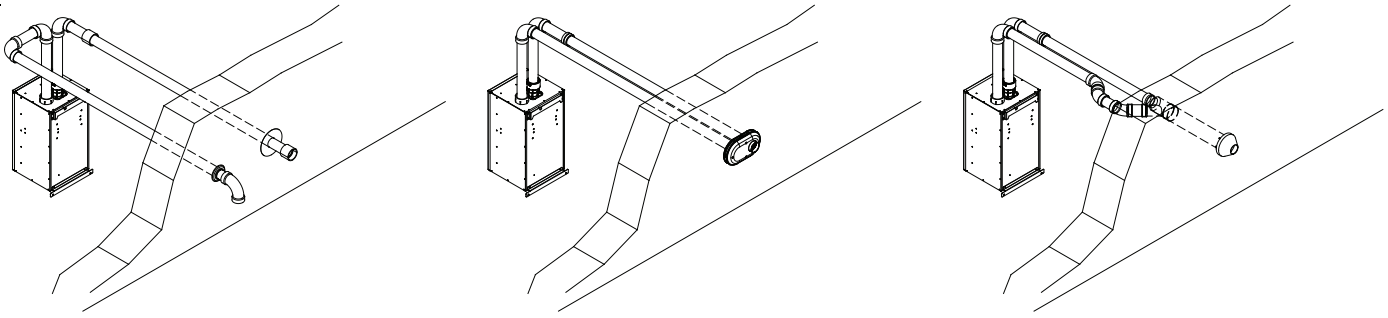

Figure 7.0a: Horizontal Twin Pipe
- **Horizontal ("Side Wall") Twin Pipe Venting (Figure 7.0a)** - Vent system exits the building through an outside wall. Combustion air and flue gas are routed between the boiler and the terminal(s) using separate pipes for at least part of the way. A summary of Horizontal Twin Pipe venting options is shown in Table 7.5.